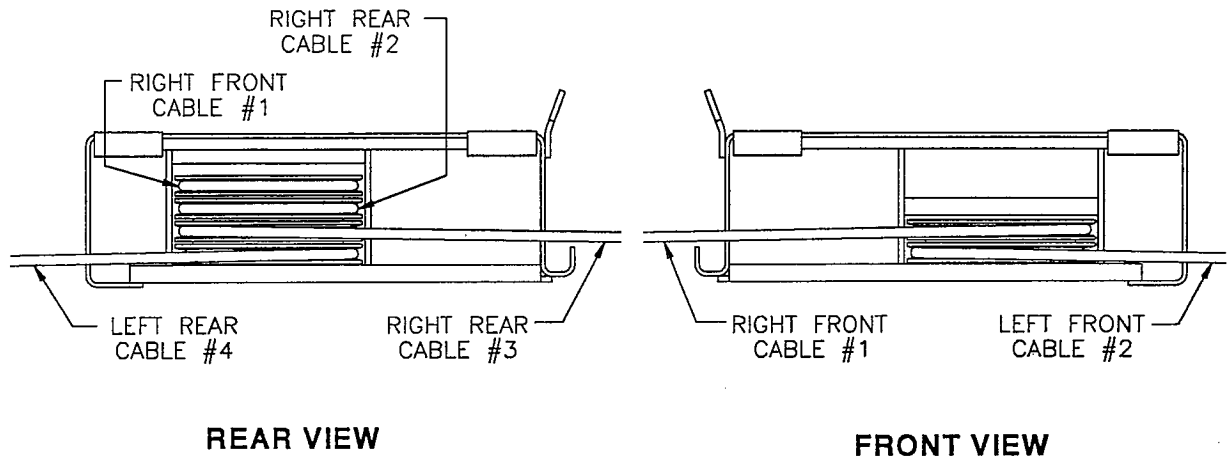

Fig 2
2. Position the power runway in the bay with the opening for the hydraulic and air line towards the rear of the bay. Have the power runway blocked so that you can get to the cables and cylinder. Pull cable ends out. This will help for easy install. Make sure the cables are in the proper sheaves as shown in **Fig 2**.